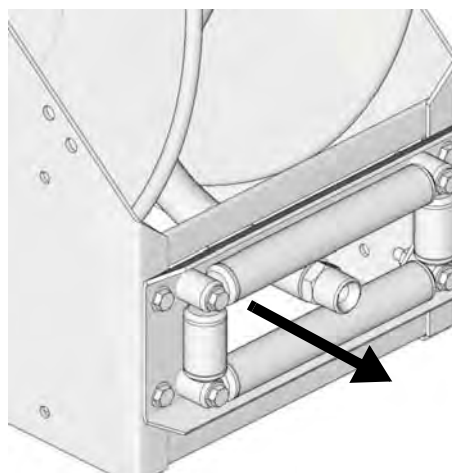

FIG. 16
13. Route end of the hose through the hose rollers (FIG. 16).